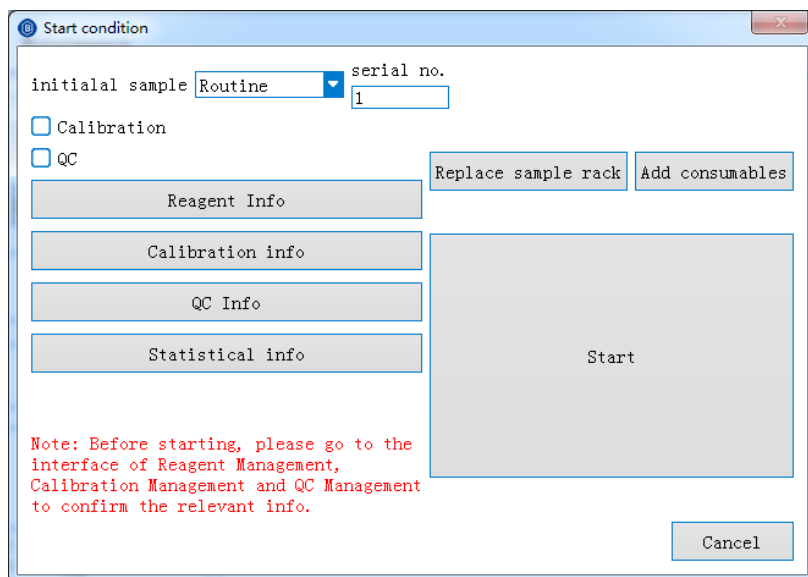

Figure. 8.9.1 Start-up conditions (serial number mode)
- Click **Start-up** in the function controls column to pop up the start-up conditions interface, as shown in Figure 8.9.1.
- Click **Start-up** in the function controls column to pop up the **Start-up conditions** interface, as shown in Figure 8.9.1.